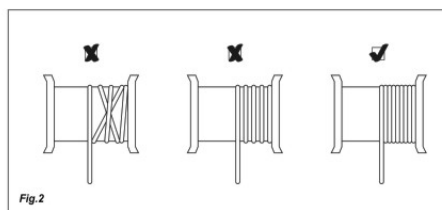

Fig.2
12. Before using this hoist, make sure that the steel cable is correctly wound around the rope drum with the pitch equal to the diameter of the steel cable. (See Fig. 2).
13. Make sure that the load is properly secured to the lifting hook (7) or the pulley and the operator shall always keep certain distance with the load and the steel cable (6).